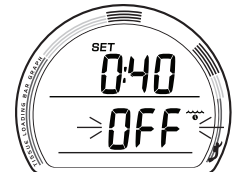

Fig. 33 - SET EDT ALARM
**SET EDT ALARM**, information includes (Fig. 33):